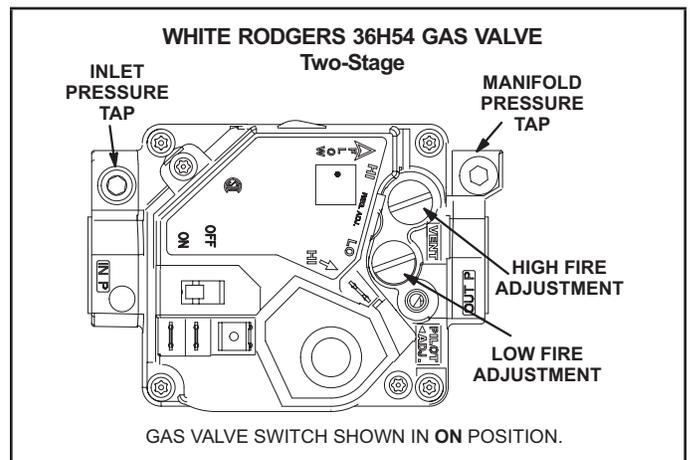

FIGURE 23
#### Gas Valve Operation for Honeywell VR8205Q / VR8305Q and White Rodgers 36H54 (FIGURE 23)
- 5 - Turn gas valve switch to **OFF**. See FIGURE 23.
- 6 - Wait five (5) minutes to clear out any gas. If you then smell gas, **STOP!** Immediately call your gas supplier from a neighbor's phone. Follow the gas supplier's instructions. If you do not smell gas, go to the next step.
- 7 - Turn gas valve switch to **ON**. See FIGURE 23.